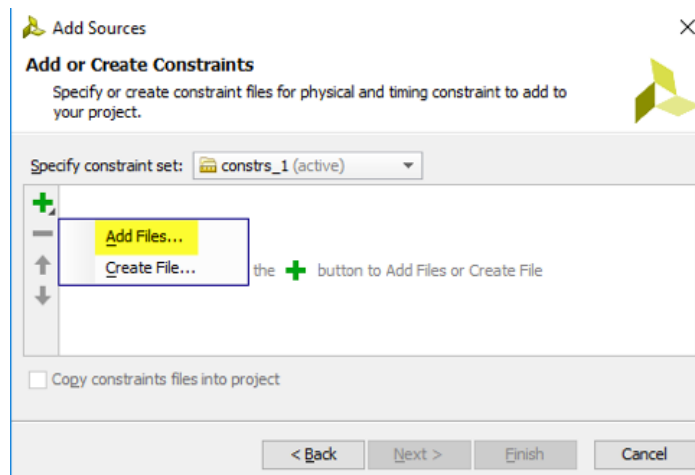

Figure 20. Adding the constraints file
23. In the “Add Sources” window click on the green plus icon and select “Add Files” as shown in Figure 20. Then select the Basys3.xdc file from the place where you’ve saved it (M:\02138\LabN\src). Next make sure that the tick is **NOT** set for the box “Copy constraints files into project”. Next click on Finish.